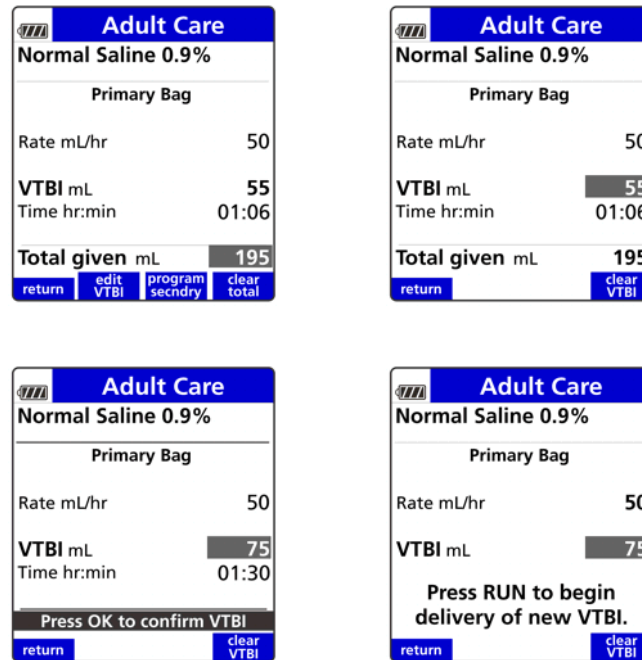

Figure 79. VTBI Review Screens.
2. At the Review screen, press the **edit VTBI** soft key. See Figure 79.
3. Enter new value and verify the VTBI is equal to or less than the volume in the container. See Figure 79.
4. Press **OK to confirm VTBI**. See Figure 79.